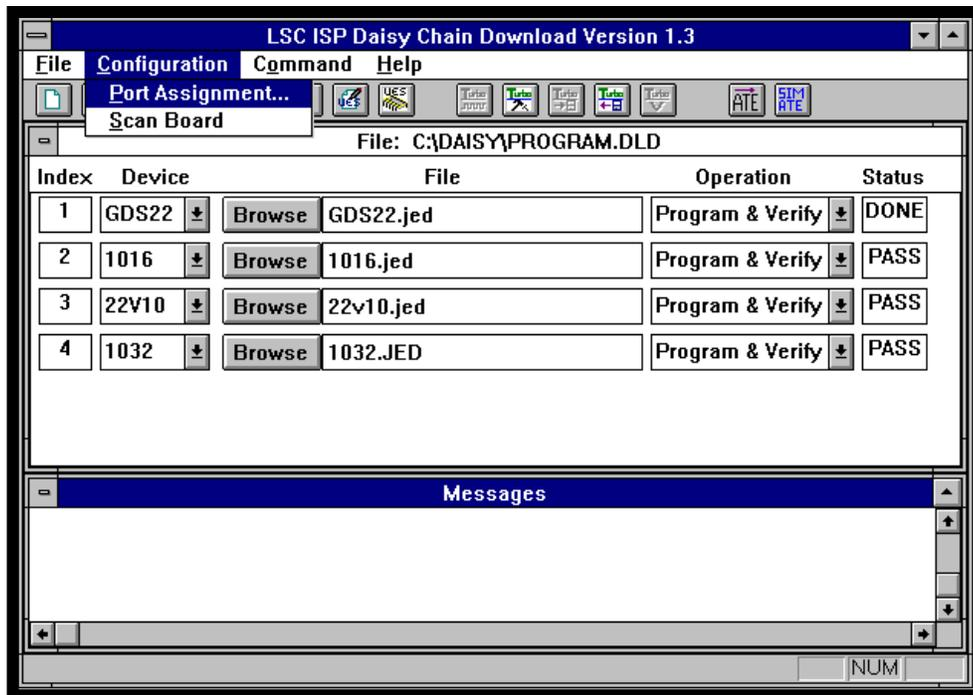
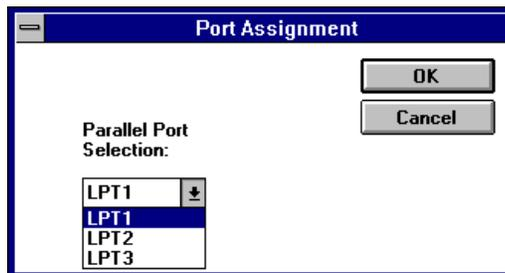

Figure 3-36. **Configuration** ⇒ **Port Assignment** Menu Option
Figure 3-37. Port Assignment Dialog Box
1. Select **Configuration** ⇒ **Port Assignment** from the IDCD menu (Figure 3-36). The Port Assignment dialog box appears (Figure 3-37).